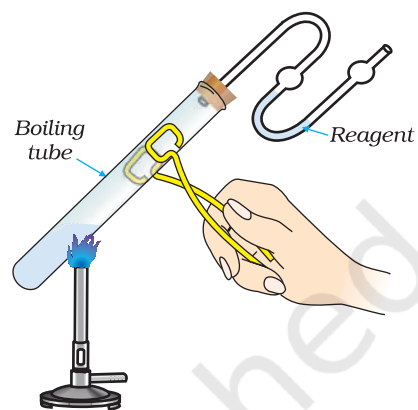

Fig. 7.1 : Testing a Gas
- (a) Take 0.1 g of the salt in a test tube and add 1–2 mL of dilute sulphuric acid. Observe the change, if any, at room temperature. If no gas is evolved, warm the content of the test tube. If gas is evolved test it by using the apparatus shown in Fig.7.1 and identify the gas evolved (See Table 7.1).
If there is effervescence with the evolution of a colourless and odourless gas on adding dil. H_2SO_4 to the solid salt, this indicates the presence of carbonate ion. The gas turns lime water milky due to the formation of CaCO_3 (Fig. 7.1)